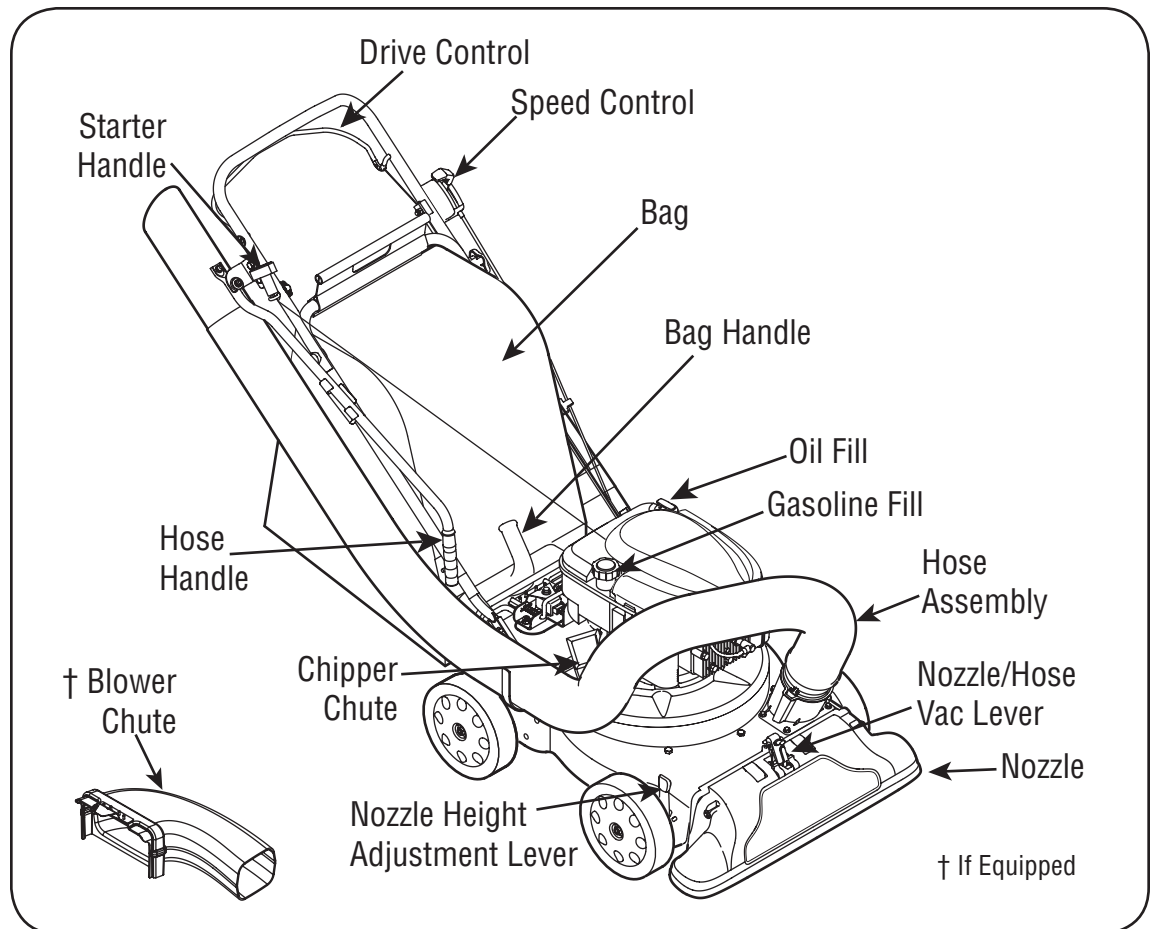

Figure 4-1
Allows twigs and small branches up to 1-1/2" in diameter to be fed into the impeller for chipping. See Figure 4-1.
Used to adjust the nozzle ground clearance ranging approximately from 5/8" to 4 1/8". See Figure 4-1.
Used as an alternative to the nozzle to vacuum yard waste such as leaves or pine needles in hard to reach places. See Figure 4-1.
Used to grasp bag in order to assist in attaching, removing, and emptying bag. See Figure 4-1.
1. Check oil level and add oil if necessary. Follow engine manual for this. See Figure 4-1 for location of the oil fill.
2. Service the engine with gasoline as instructed in the engine manual. See Figure 4-1 for location of gas fill.